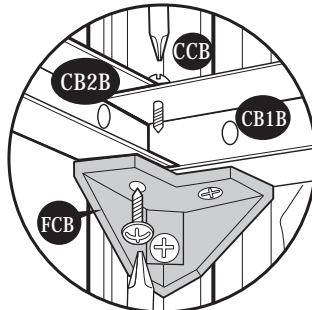

Fig.2: Use (S1) screws. Fix (CB2B) to (FCB) and (CB1B)
12. Stabilize the side panels with center bands (CB3LB) & (CB2B). Fix (FCB) fitting to corner column (CCB). See Fig.1 Follow the Fig. 2, 3, 4 & 5.